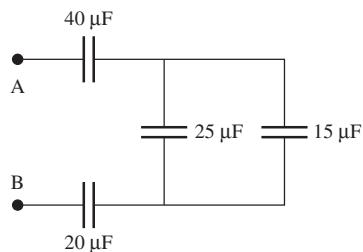

FIGURE P4.25 Capacitor network.
- 4.25** (B) Find the equivalent capacitance between points A and B in Figure P4.25.